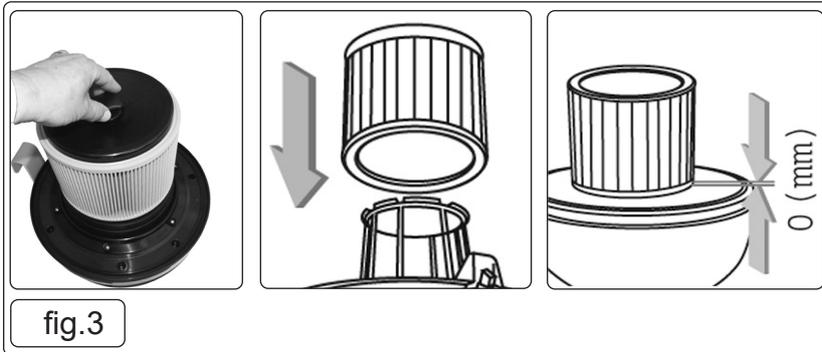

fig.3
- 7.1. Category M Cartridge Filter. To pickup dust of Class M the dust bag **MUST** be installed in the appliance. To vacuum Class 'M' dust **ALWAYS** use the filter element Fig.3.